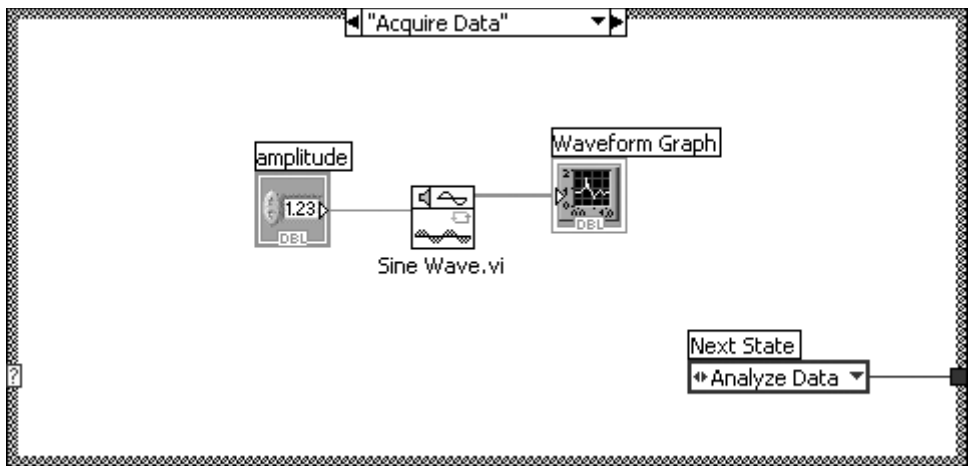

Figure 13.76
13. Add a case to the Case Structure for “Analyze Data,” as shown in Figure 13.76. You will need to read the data from the waveform graph using a local variable in read mode.